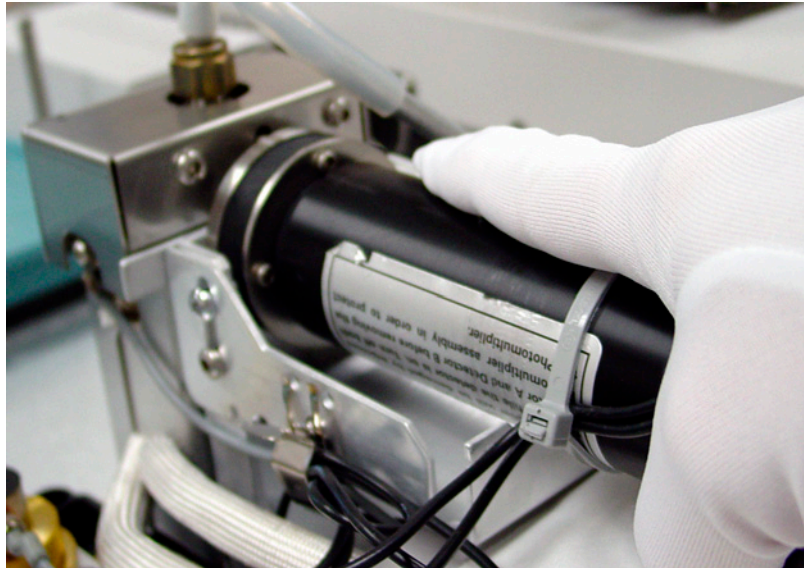

Figure 26 Removing the PMT assembly
- 2 Disconnect the retaining spring that holds the PMT assembly to the bracket. With a rotating motion, pull the assembly away from the filter housing (Figure 26).